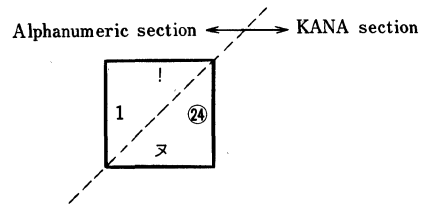
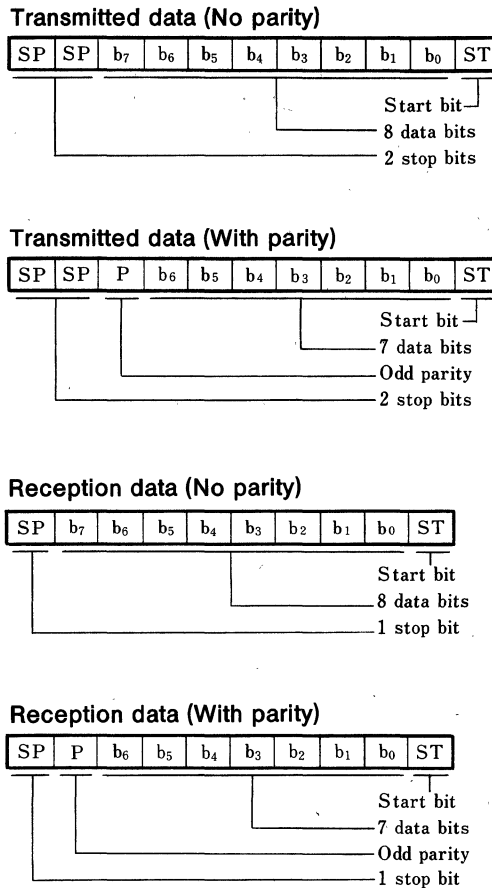

Fig. 3 Keyface symbols
Fig. 6 Serial data format
The compatible keyboard types, their configuration and status control switches on the key matrix and shown in Fig. 3. Conformity of key data to the JIS code requires the key arrangement shown in Fig. 2. The status control circuit should consist of the SCAN1-SCAN2 and key scan input signals (KSI1-KSI8). (Note. Shaded sections in the fig. are not usable.)
① Data key block: Consists of 96 keys arranged on the matrix composed of scan signals  $\overline{SCAN}_5$ - $\overline{SCAN}_{16}$  and key scan input signals  $\overline{KSI}_1$ - $\overline{KSI}_8$ . When the JIS code system is selected (code select switch at OFF), key data is encoded into the transmit character codes shown in Fig. 5. In this case the key arrangement shown in Fig. 3 is required. When the native code system is selected (code select switch at ON), key data is encoded into the transmit character codes as shown in Fig. 6.
The serial data format can be selected from 7 bits with parity, 7 bits with no parity (b7 fixed at '0'), and 8 bits with no parity. Selection is executed with bit 7 or 8 and with parity switch (see description of transfer data format setting). Fig. 6 shows the serial data format.